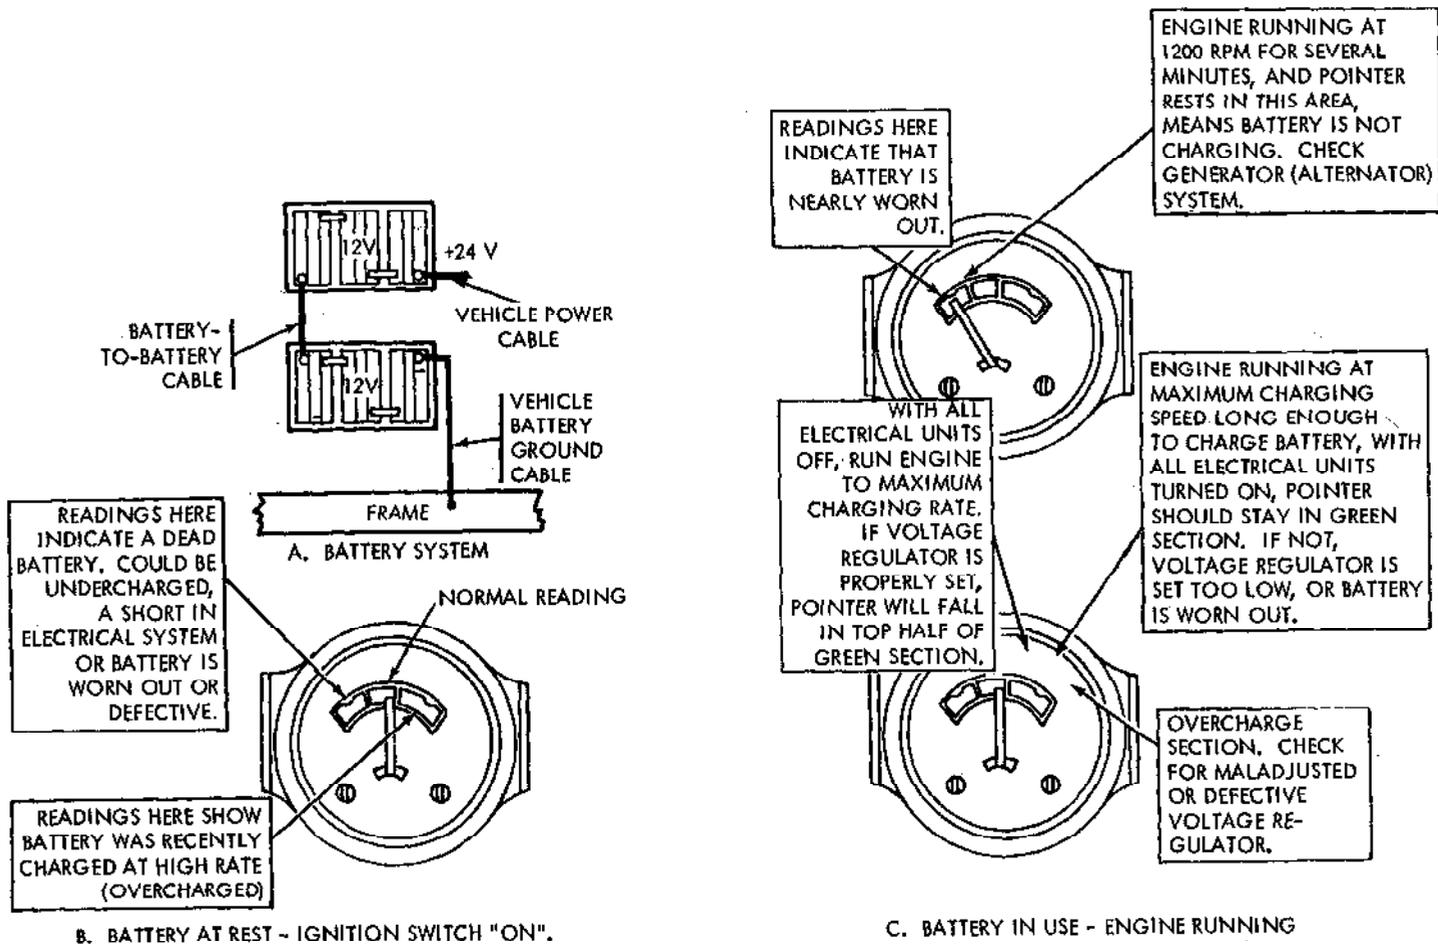

Figure 2-15. Interpretation of battery-generator indicator gage.
a. Preliminary Battery Check. The vehicle battery condition should be checked prior to performing any electrical checks in the vehicle. The vehicle has two 12-volt batteries connected in series, furnishing 24 volts to the electrical system (fig. 2-15) which uses a negative (—) ground and a positive (+) power feed to the electrical components. To test the battery condition, turn the ignition switch to ON (without starting the engine). Observe the battery indicator (fig. 2-15). Start the engine, accelerate to about 1200 rpm, and again observe the battery indicator. If the indicator observations show that further tests are required, refer to the Electrical Troubleshooting tests, Battery System (fig. 2-17).
(1) Hold the hydrometer vertically, so the float does not touch the sides of the glass barrel. Be certain that the barrel is not so full of electrolyte that the float is stopped at the top. Read straight
<p>DESCRIPTION:</p>	<p>The 25-ampere dc generator electrical system consists of the following components: Battery-generator indicator, 25-ampere dc generator, generator regulator, charging circuit insulated cable, main wiring harness, battery ground cable and engine-to-frame ground strap. The circuit is energized by mechanical rotation of the generator. As the dc voltage builds up, the reverse current relay closes and supplies current to the battery through the current relay coil in the regulator. The voltage relay coil measures the voltage across the battery. When the voltage rises to more than 28 volts, the generator output is reduced by varying a resistance in the generator field coil circuit. When the engine slows down and the generator voltage fails substantially below the battery voltage, the reverse current relay disconnects the generator from the battery. The charging status of the generator is indicated by the battery-generator indicator (fig. 2-15).</p>